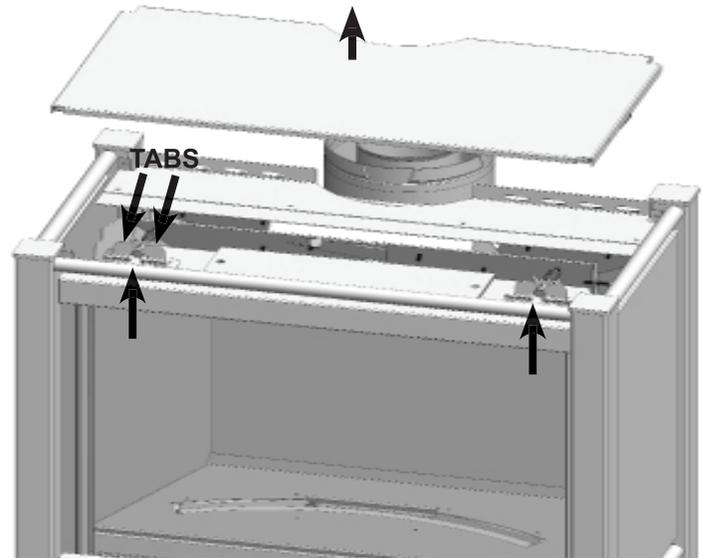

Fig.1
2. Remove the top lid assembly from the top of the appliance and set it aside.(**Fig.1**)
3. There are two door latch mechanisms on top of the glass door.(**Fig.1**) Pull the tabs forward and up off the door tabs.